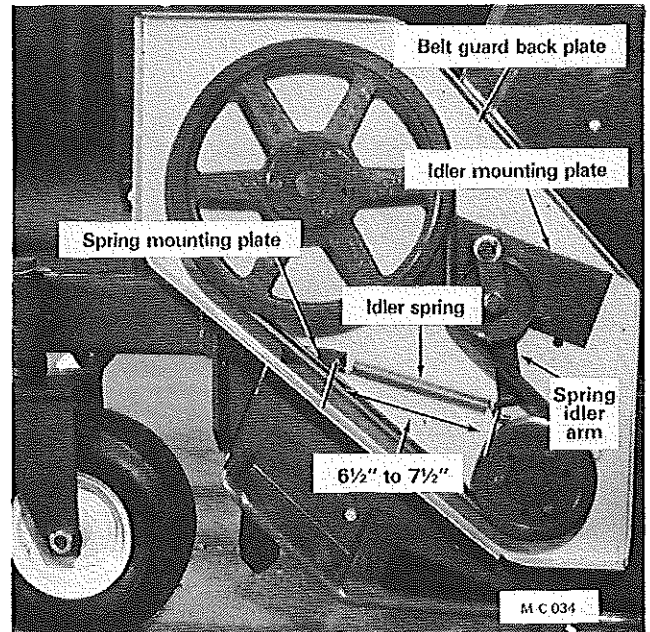

Figure 23
2. Drive belt tension is correct when the idler spring total length is 6½ to 7½ inches (from hook to hook), see Figure 23.
2. Loosen the two capscrews holding the idler mounting plate to the belt guard back plate (one capscrew is behind the belt idler pulley), see Figure 23.
3. If the idler pulley is out of alignment, loosen the two capscrews holding the idler mounting plate to the belt guard back plate (one capscrew is behind the belt idler pulley), see Figure 23.
3. Remove the two idler mounting plate capscrews (one capscrew is behind the belt idler) and remove the drive belt spring idler assembly, see Figure 23.
9. Install the belt guard back plate. Be sure to install the idler spring mounting plate as shown in Figure 23. Install the drive belt spring idler assembly and the idler spring. Leave the two idler mounting plate capscrews loose until the drive belt has been adjusted.